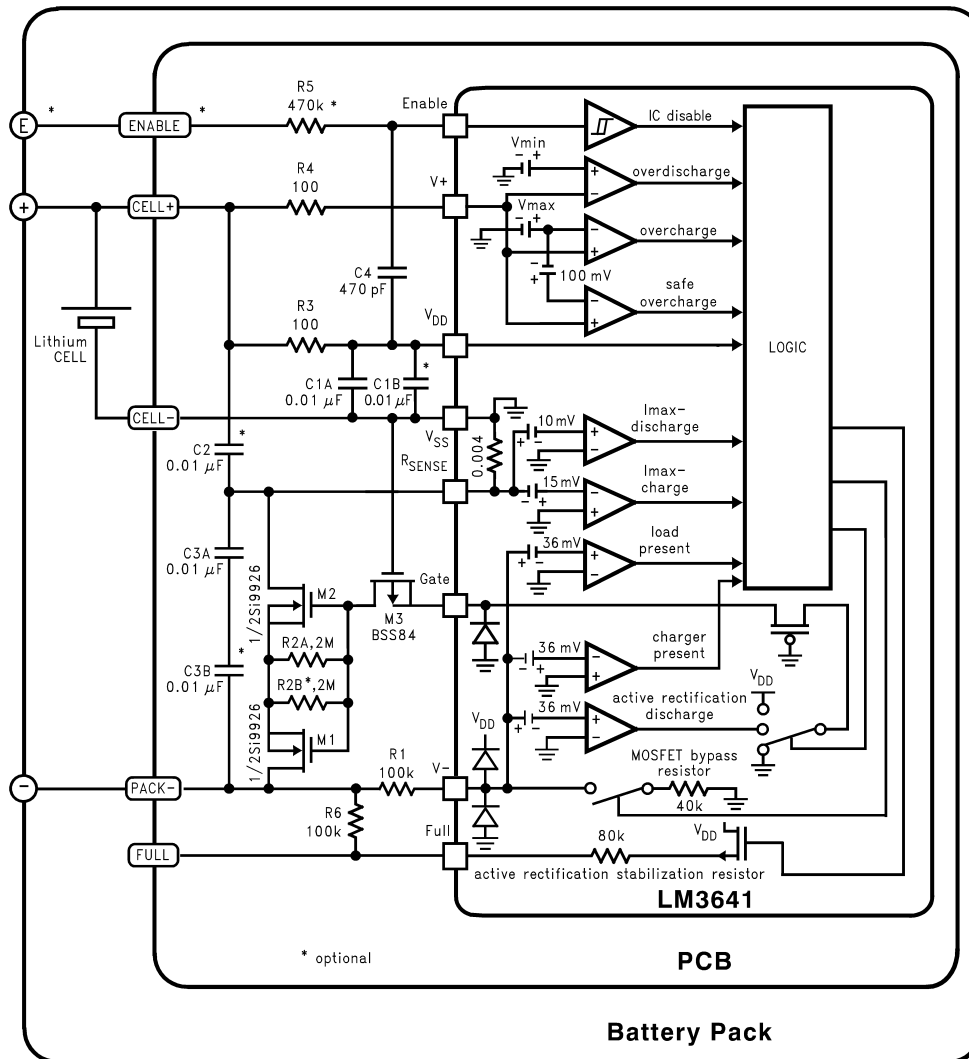

FIGURE 6. Application Circuit
- The power MOSFET turn-OFF resistor R2 is critical for proper turn-OFF of the MOSFETs during a fault condition. Precaution is necessary so that this resistor or its contacts to the FET terminals is not interrupted by defects during and after the PCB assembly. The most robust design is to replicate this resistor and its connections (see *Figure 6*).
- The IC bypass capacitor, C1, maintains stable operation of the IC's analog functions. This component's presence can be assured with a redundant capacitor (see *Figure 6*).